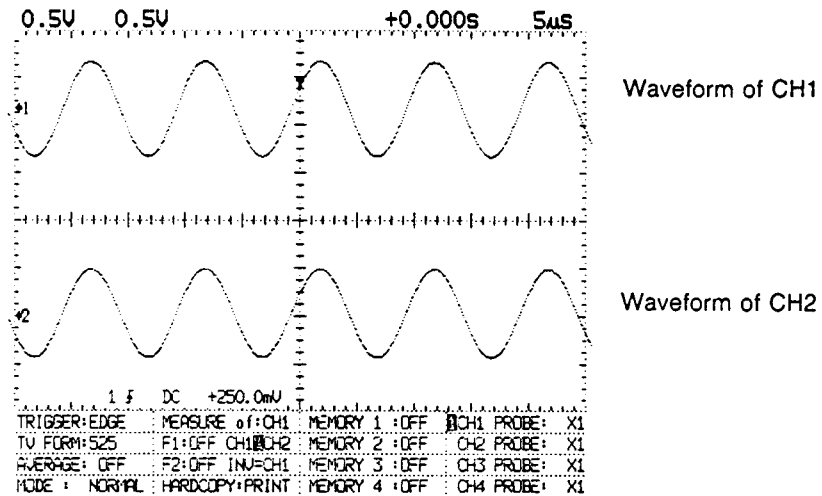

Fig. 6-35 Example of CH1 vs CH2 selected by operation 1 (F1)
- An example of the voltage vs voltage display (VERSUS) is shown in Fig. 6-35.